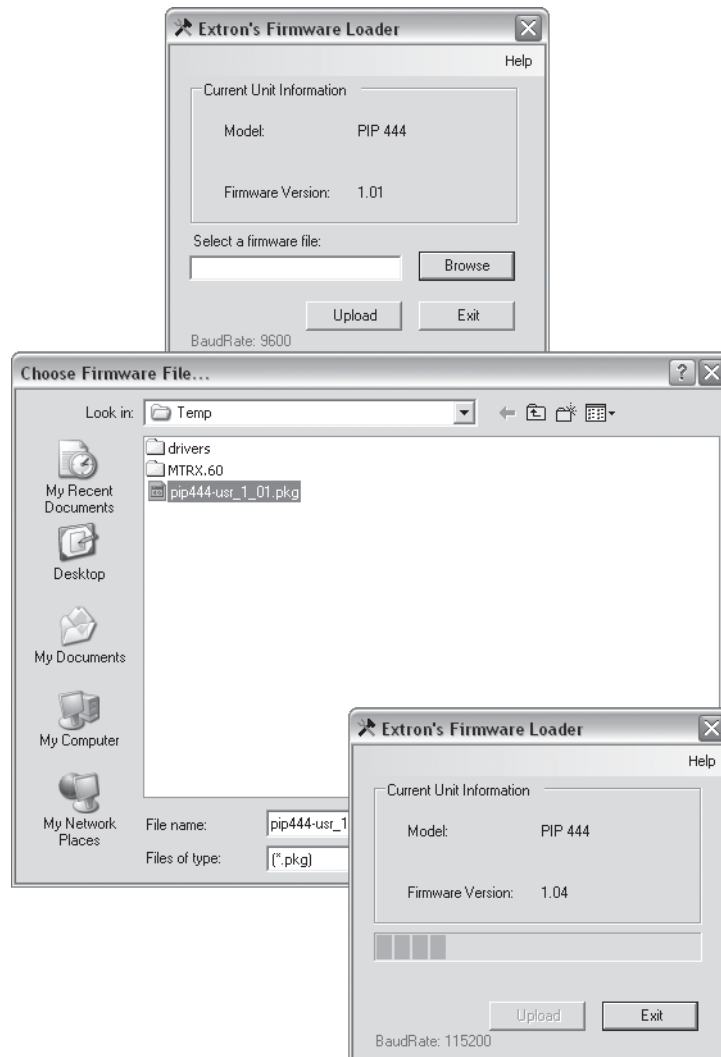

Figure 4-8 — Open window
3. Click the update firmware button (figure 4-8). The Extron Firmware Loader appears.